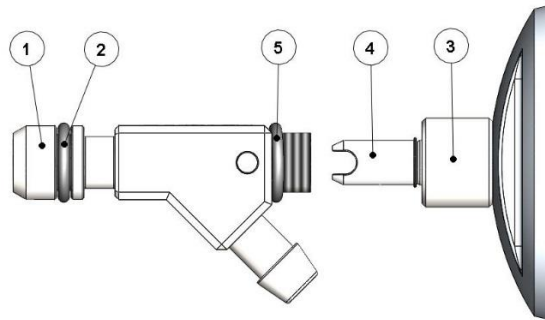

Figure 2
1. Push the cannula holder (*Figure 2, Point 1*) onto the fork-shaped pin on the handle (*Figure 2, Point 4*). The tube connection can be aligned upwards or downwards as required. The alignment of the tube connection can be rotated by 180° if necessary. The O-rings (*Figure 2, Point 2 and 5*) must be in perfect condition.
2. Attach the cannula holder by tightening the lock nut (*Figure 2, Point 3*) against the O-ring by hand.